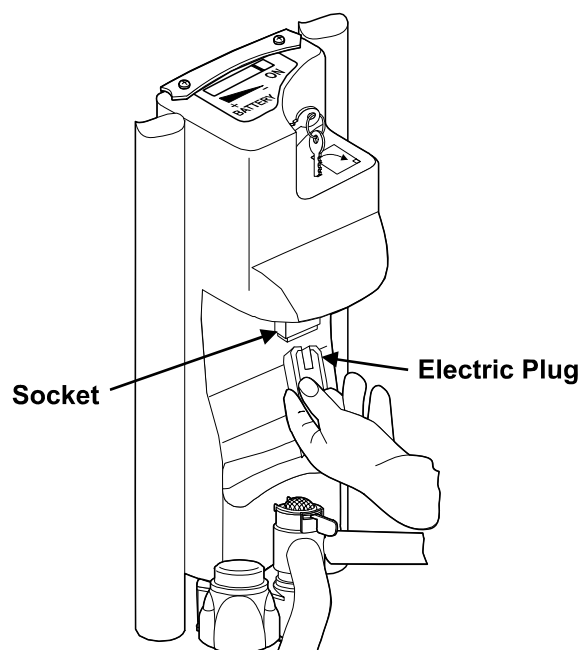

Figure 4.
- d. Connect the Electric Plug to the Socket in the Tiller (See Fig. 4).